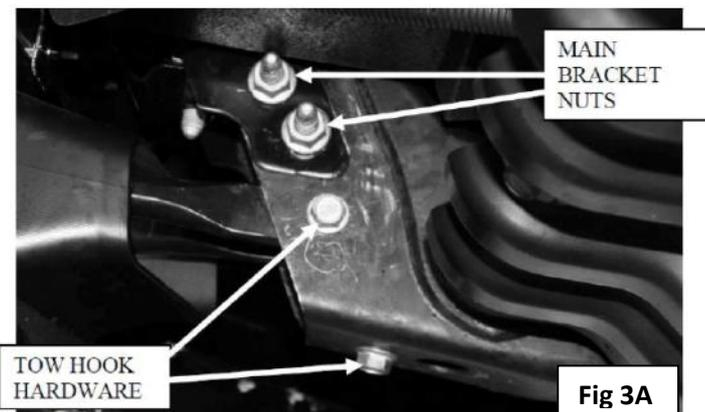

Fig 3A
9. Remove the two main bumper bracket nuts per side (**Fig 3A & 3B**).